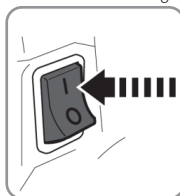

Fig. 8
2. The stop switch is typically in the "I" position, indicating that the ignition is on and the engine is ready to start when not pressed. If the stop switch is moved to the "0" position, the ignition is turned off. After stopping the engine, the ignition is automatically turned on again (Fig. 8).